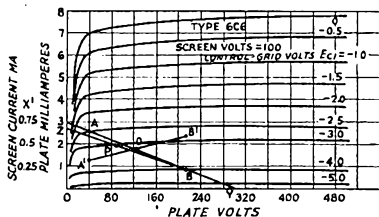
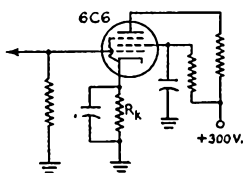

Fig. 3 — Average plate characteristics for a type 6C6 tetrode.
Fig. 4 — Typical resistance-coupled pentode amplifier circuit. $R_k = 1500$ ohms. $R_p = 100,000$ ohms.
The following procedure is used to locate the operating point of a resistance-coupled amplifier which uses a 6C6 pentode. The characteristic curves for this tube are shown in Fig. 3 while the diagram appears in Fig. 4.
2) Assume two values of bias voltage along the load line. These are points *A* and *B* at 2.5 and 4 volts respectively along load line *XY* shown in Fig. 3.
At this point it is necessary to consider the effect of screen current flowing in the cathode resistor. In the case of the 6C6 this current is 25 per cent of the plate current as shown by the screen-current scale in Fig. 3. Thus, in order to anticipate the true operating point on the plate current-plate voltage characteristics, the effective cathode resistance must be found by increasing the value of the cathode resistor by the same percentage as that by which screen current increases the total cathode current. Consequently, in drawing the bias line the slope of the line is determined by
9) It is possible also to draw a screen load line on a characteristic curve as demonstrated by line YZ in Fig. 3. One point of the screen load line is of course at the supply-potential point on the plate-voltage coördinate. A second point is point P which is the screen voltage and grid-bias point. In this case the screen voltage is 100 and the grid bias -3.187 volts.